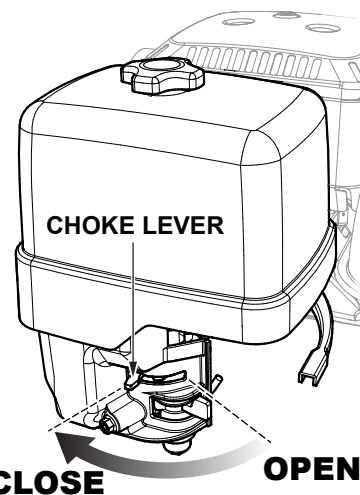

Figure 36. Choke Lever (Closed)
4. If starting a cold engine, place the choke lever in the **CLOSED** position (Figure 36).
- If the engine has started, slowly return the choke lever to the **CLOSED** position (Figure 36). If the engine has not started, repeat steps 1–6.